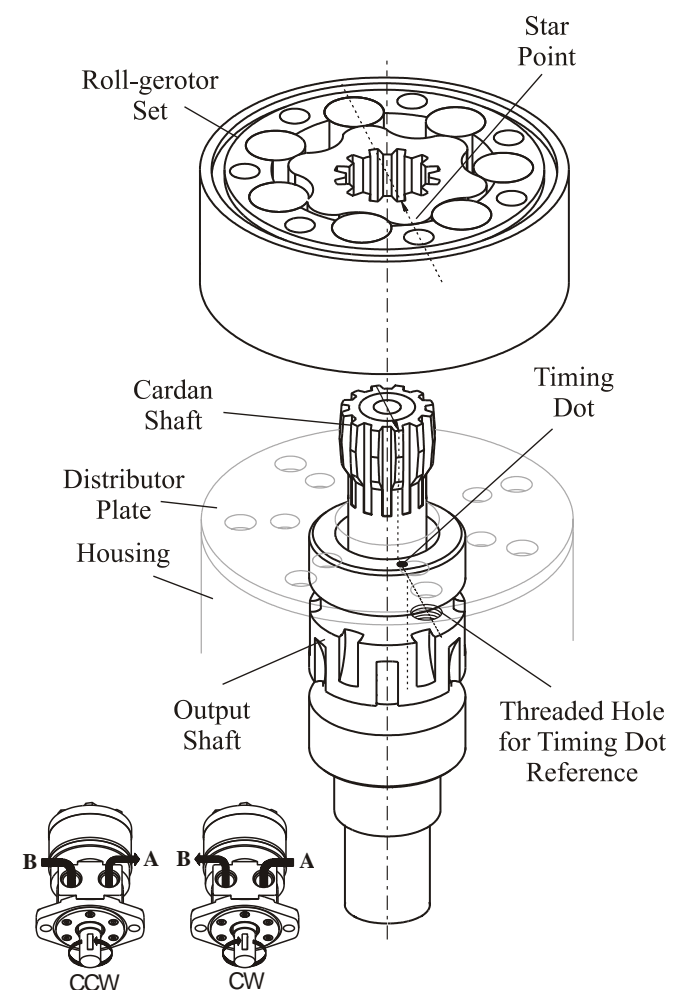

Fig.9
7. Place shaft seal in Flange and firmly push with Seal driver (see Fig.9).
17. Place roll-gerotor set on distributor plate positioning any star point over the bolt hole aligned with the timing dot. Stepped bolt holes are facing with smallest diameter to the distributor plate (see Fig.9)